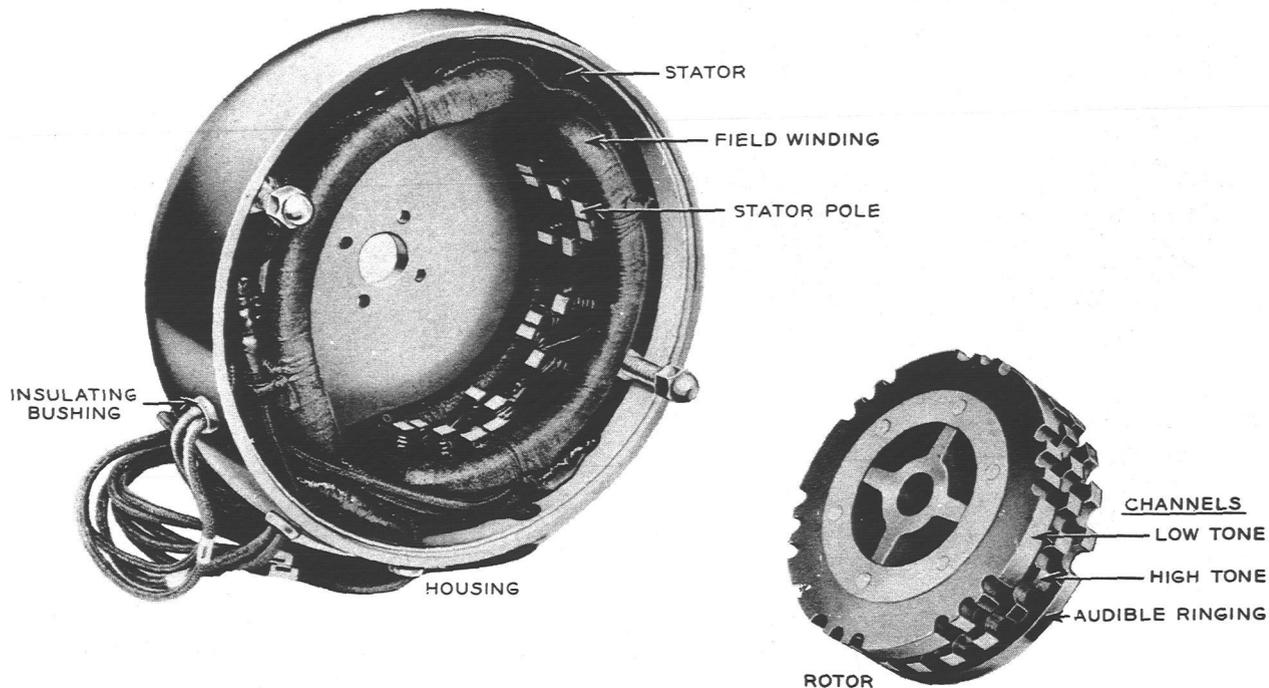

Fig. 1 - Tone Alternator, Battery Excitation
- 3.01 Rotor (See Figs. 1 and 2)
### 3.(2) Stator (See Figs. 1 and 2)
### 3.04 Insulating Bushing (See Fig. 1)
**3.05 Alternator Leads (See Figs. 1 and 2)**